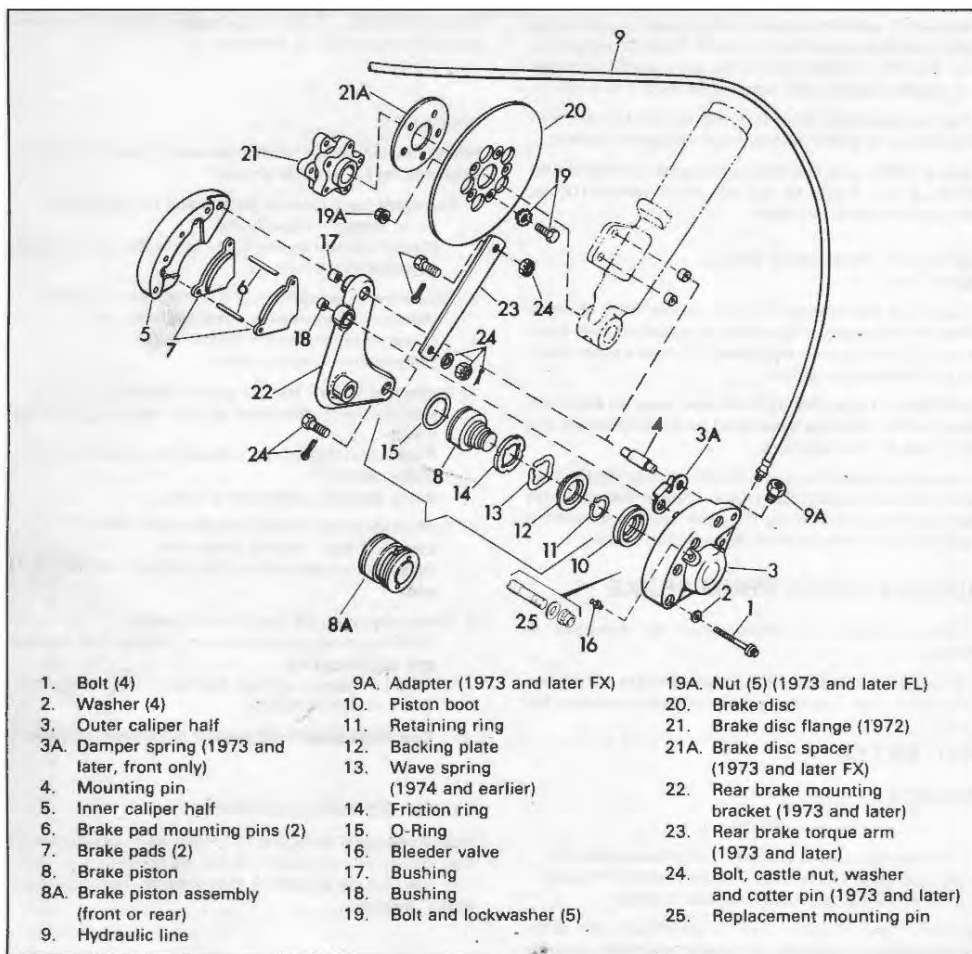
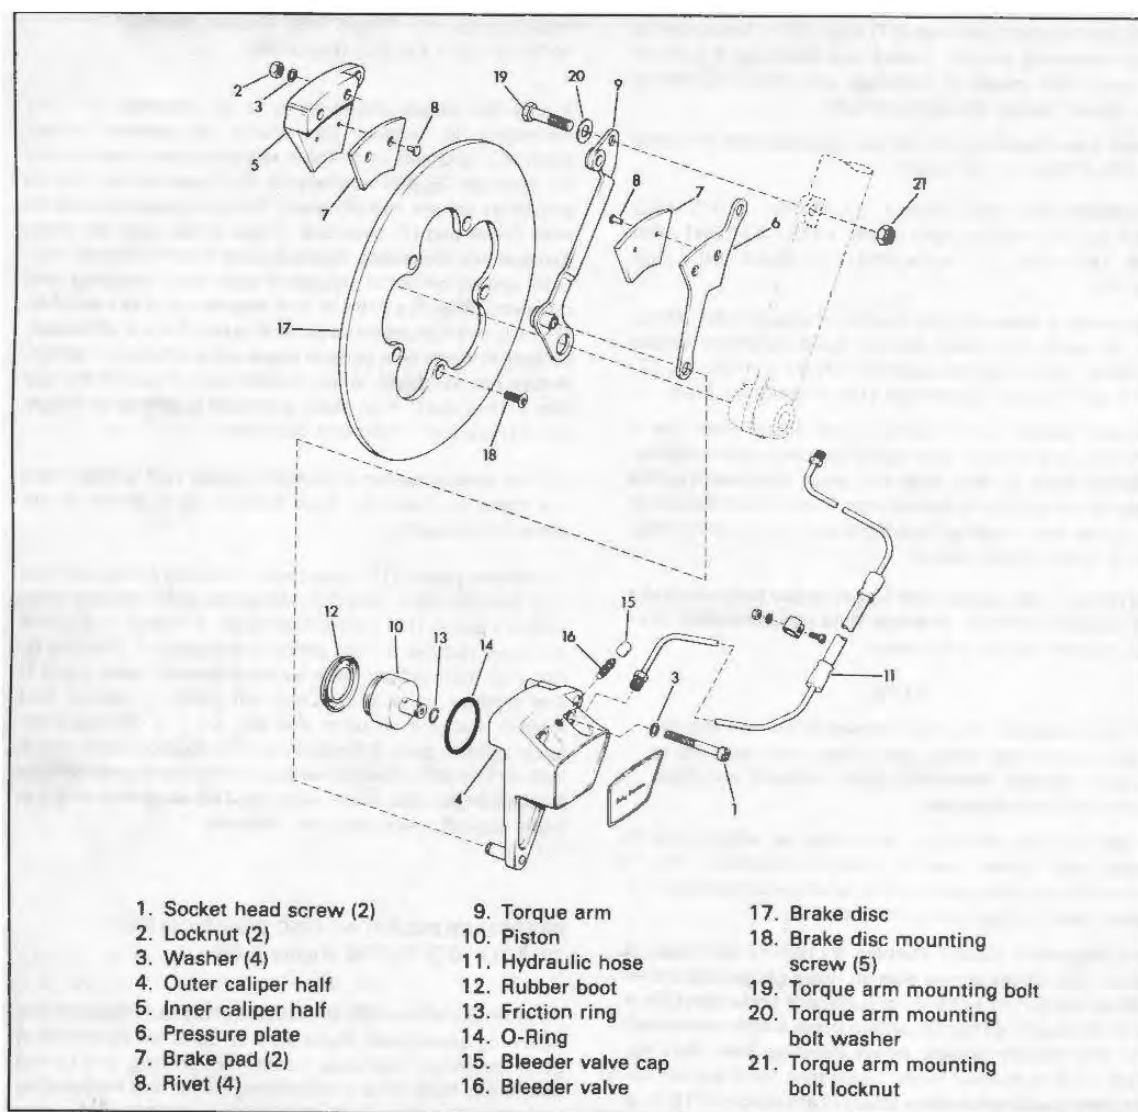

Figure 2-65. Disc Brake - Exploded View, 1972 and Later FL/FLH Front and Rear, 1973 FX Front and Rear, 1974 FX/FXE/FXS Rear Only
Figure 2-66. Front Disc brake, 1974 to 1977 FX/FXE
Two types of calipers are used. The following description applies to Figure 2-65. Brakes shown in Figures 2-65 and 2-66 operate in a similar manner.
DISASSEMBLING DISC BRAKE CALIPERS – 1972 AND LATER FL/FLH FRONT AND REAR, 1973 FX FRONT AND REAR, 1974 AND LATER FX/FXE/FXS REAR ONLY (Figure 2-65)
REASSEMBLING DISC BRAKE CALIPERS - 1972 AND LATER FL/FLH FRONT AND REAR, 1973 FX FRONT AND REAR, 1974 AND LATER FX/FXE/FXS REAR ONLY (Figure 2-65)
DISASSEMBLING FRONT DISC BRAKE CALIPER - 1974 TO 1977 FX/FXE (Fig. 2-66)
REASSEMBLING FRONT DISC BRAKE CALIPER - 1974 TO 1977 FX/FXE (Figure 2-66)
2. Slip a length of appropriate size plastic tubing (2) over wheel cylinder bleeder nipple (1, Figure 2-69; 16, Figure 2-65 and 15, Figure 2-66). Immerse the other end in any container (3) containing brake fluid.